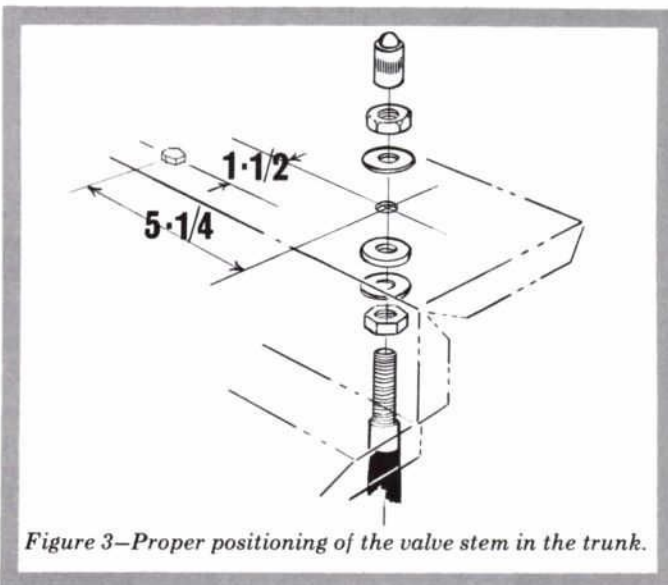

Figure 3—Proper positioning of the valve stem in the trunk.
11. For passenger cars: Drill a .344-diameter hole on the trunk floor, locating the hole on the step up of the trunk, $5\frac{1}{4}$ " to the left of the body bolt, and $1\frac{1}{2}$ " to the rear of the body bolt. See Figure 3. Route the valve stem through the hole and secure with two .302-32 nuts, two 5/16 washers and one 5/16 washer.